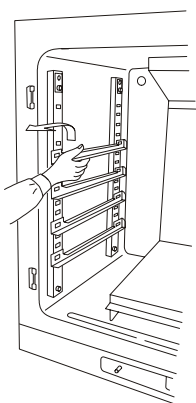

Fig. 2
4. Remove all tray supports on the right and left side by lifting up the front side. See Fig. 2.